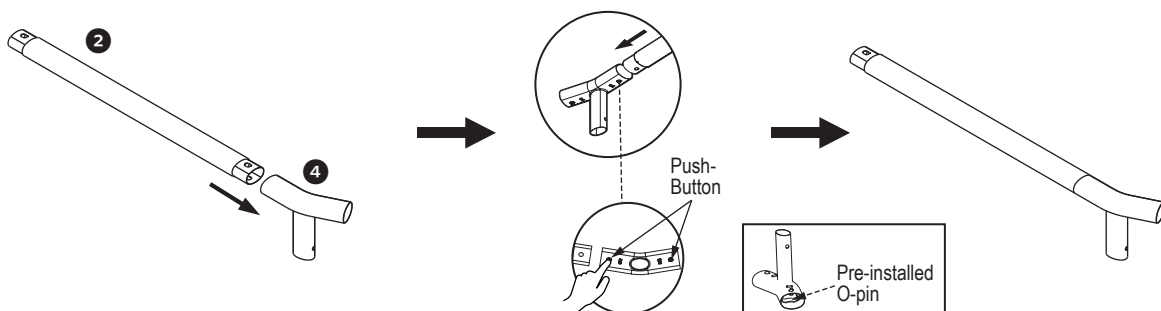

Figure 1
7. Connect each Horizontal Beam **2** with a T-Fitting **4** to form as a set (see Figure 1).